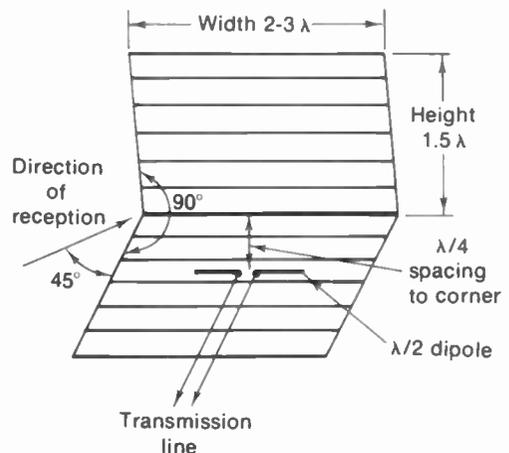

FIGURE 25-16 DIPOLE WITH CORNER REFLECTOR FOR UHF BAND.
**Dipole with corner reflector.** The antenna in Fig. 25-16 has a reflector constructed as a corner conducting sheet behind the half-wave dipole. The corner reflector can be either a solid metal sheet or a grid consisting of wires or wire screening, provided that the spacing between grid wires is  $0.1\lambda$  or less. The dipole antenna, insulated from the parasitic reflector, is mounted along the line bisecting the  $90^\circ$  corner. Maximum signal is received from the front along this line. The construction of this antenna is practical for the UHF band because of the small size at these frequencies.